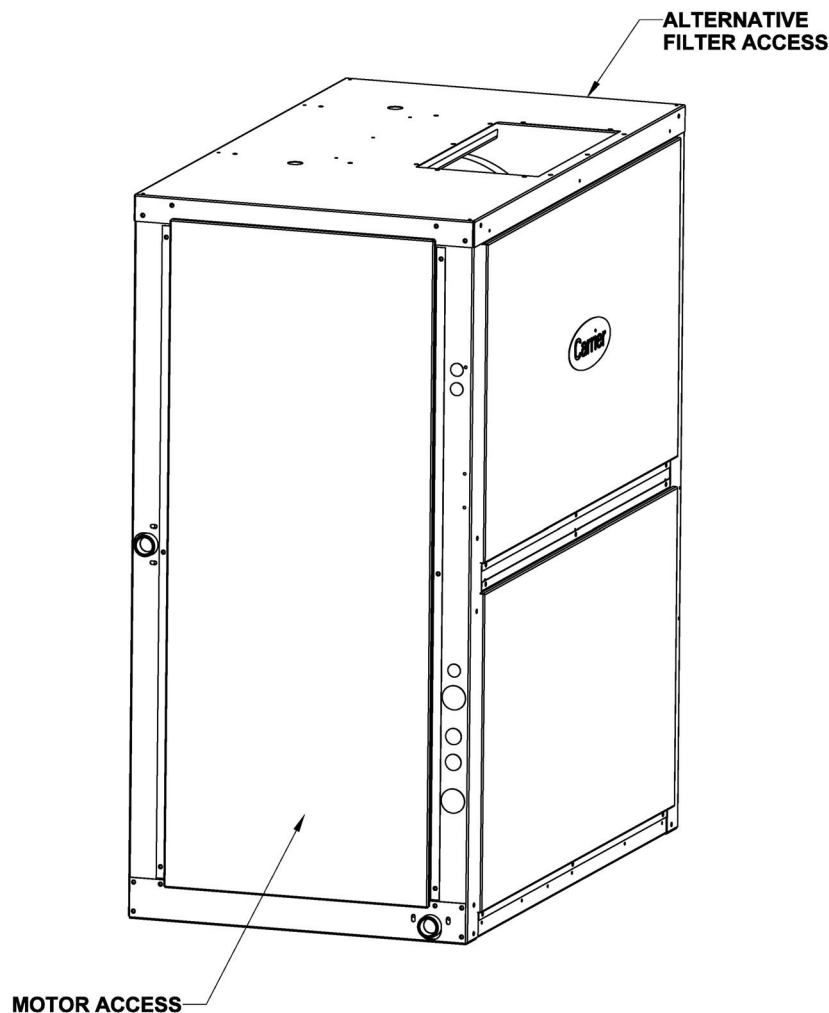

Fig. 2 — Unit Panel Locations
1. Locate the motor access panel and alternative filter access, remove them for the UV-C installation. (See Fig. 2.)